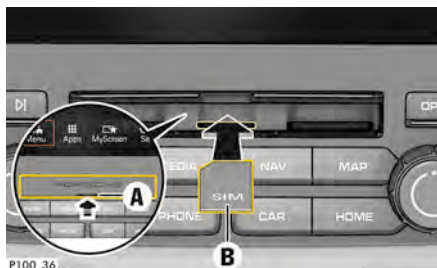

Fig. 148: Inserting and removing an external SIM card
- ✓ SD and SIM card reader cover (Fig. 148) **A** open.
1. Insert external SIM card (Fig. 148) **B** (mini-SIM card, dimensions: 25 x 15 mm). The missing corner must be pointing front left with the chip facing down.